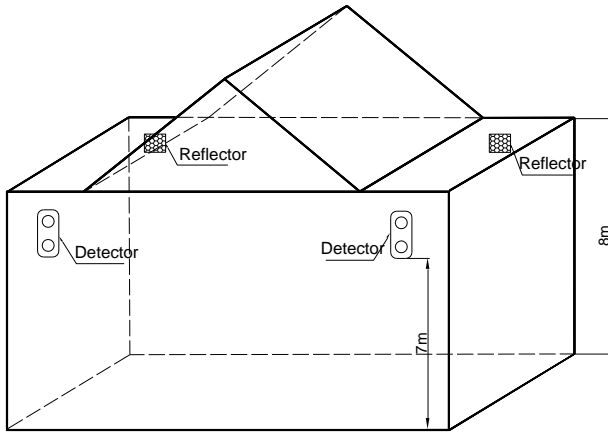

Fig. 6
- c) When space height is more than 8m, the roof is normally gabled without ceiling, the detector and reflector should be mounted on the two facing walls about 8m from the floor, ensuring that the vertical distance between the detector/reflector and top of the building is not less than 0.5m, as shown in Fig. 6. The distance should be 7m from the detector to the floor.